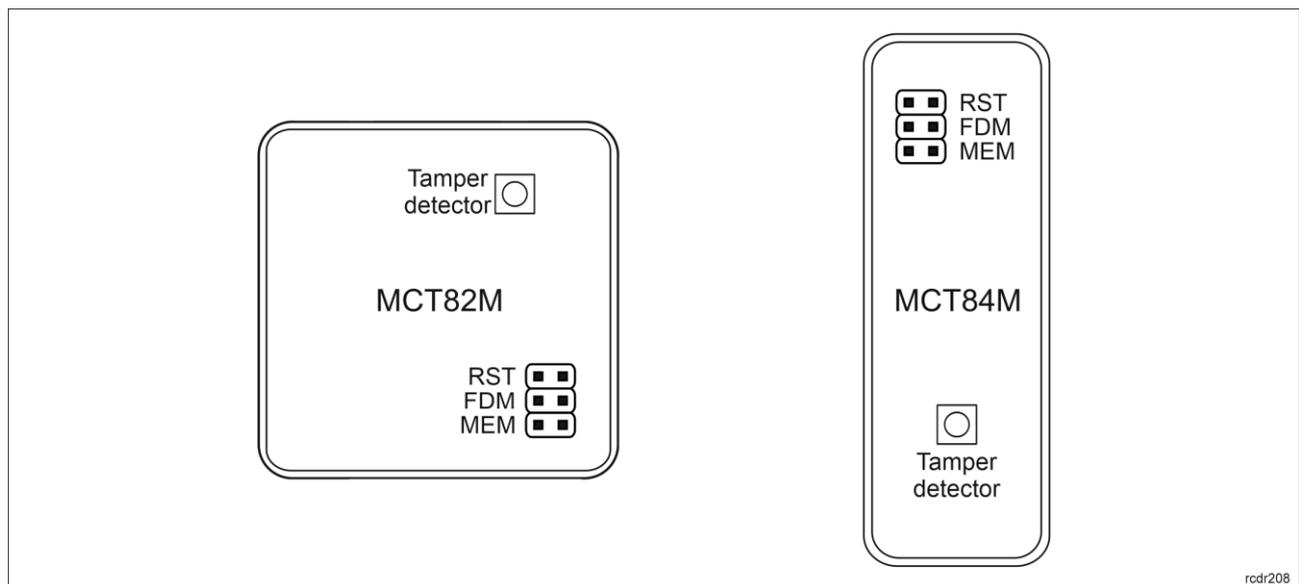

Fig. 4 Programming jumpers
Built-in tamper (sabotage) detector enables detection of unauthorized opening of device's enclosure as well as detachment of the enclosure from wall. The detector is internally connected to the terminal's input. It does not require low level configuration or any additional installation arrangements but it is essential to mount front panel in such way as the tamper detector (fig. 4) would firmly press the back panel. The detector requires high level configuration which consists in assignment of the function [133] *Tamper Toggle* on the level of a *Main Board* of a controller in VISO software navigation tree.
- Front panel should be attached in such way as the tamper detector (fig. 4) would firmly press the back panel.
In RACS 5 v2 system the reader can be installed at site without previous configuration. According to AN006 application note, its address and other settings can be configured from VISO v2 management software and during such configuration the access to its service contacts (fig. 4) is not required.
2. Remove jumper from MEM contacts (fig. 4) if it is placed there.
2. Place jumper on MEM contacts (fig. 4).